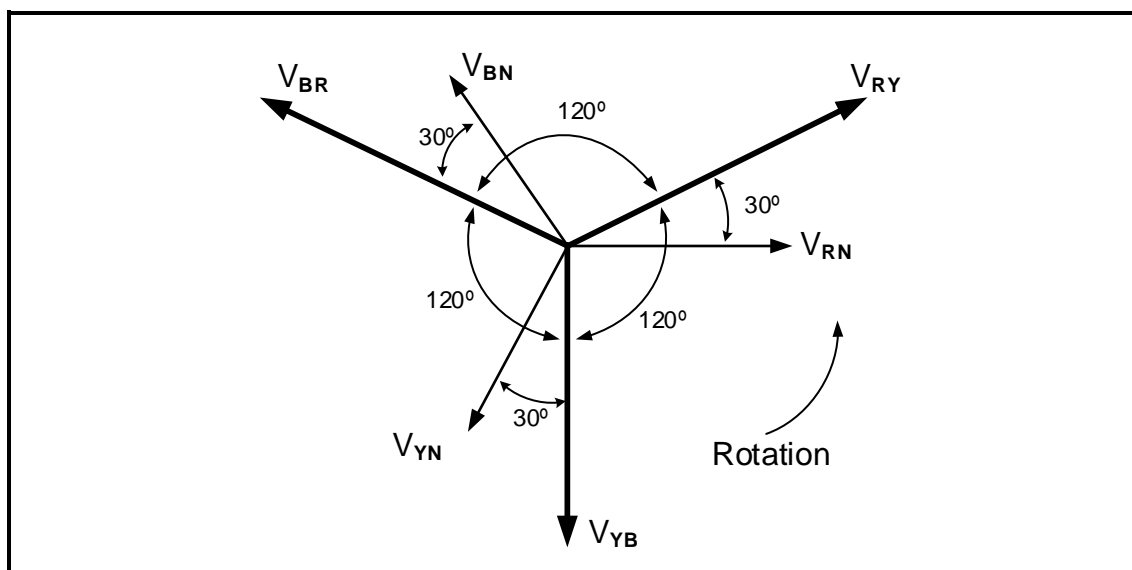

FIGURE 4.1: THREE-PHASE PHASOR DIAGRAM
4.1 Refer to FIGURE 4.1 and answer the questions that follow.